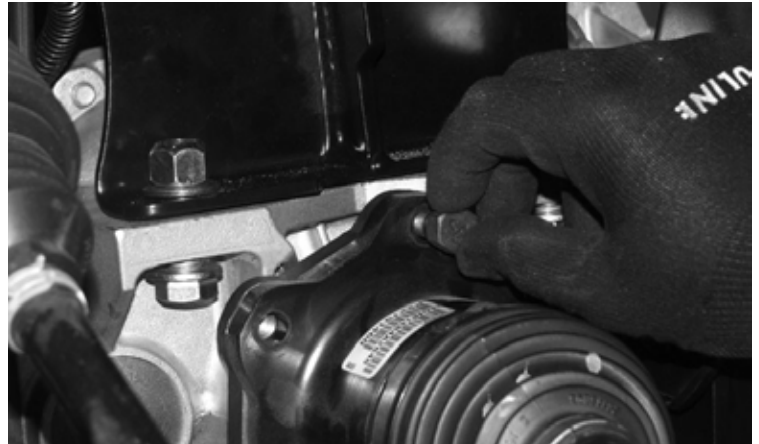
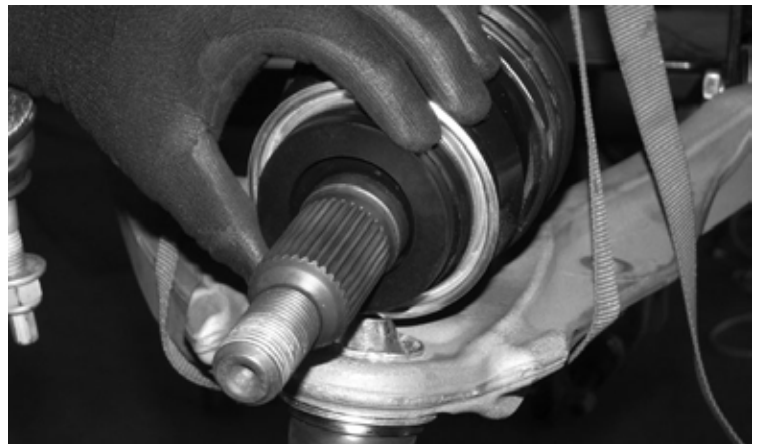

FIGURE 55 - STEP 37
FIGURE 56 - STEP 37
37. Locate the drivers side axle shaft, factory hardware and FT20664 (Axle Shaft Spacer). Using thread lock install the Axle shaft to the differential **SEE FIGURE 55**, Torque to 55 ft-lbs. Install FT20664 (Axle Shaft Spacer) onto the axle **SEE FIGURE 56**.